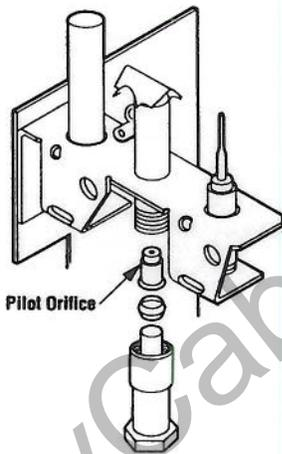

Figure 35
Step 8. Millivolt Appliances – Replace the pilot orifice with the one provided with the kit (Figure 35).